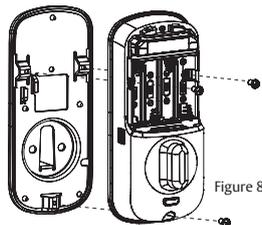

Figure 8
8. Install and secure using (3) M4 x 8mm pan head screws through the inside escutcheon into the mounting plate (Fig. 8).